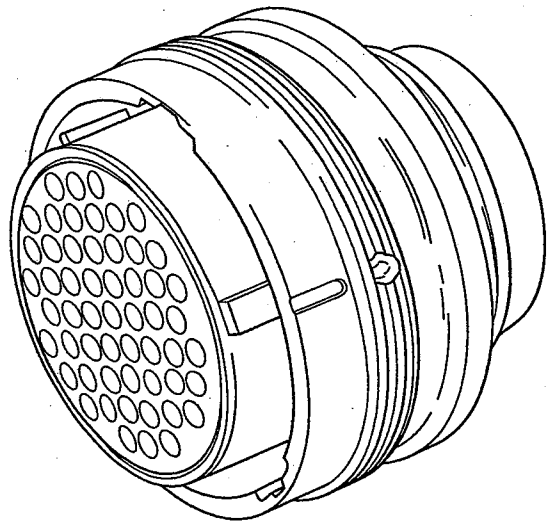

Fig 16 469 Push-pull plug, general view
- 13.1 The 469 push-pull plug (Fig 16) with crimped type contacts permits relatively rapid locking and unlocking of plug to receptacle. The 469 push-pull plug will mate with all connectors in the 460 series with the exception of the 466 straight plug.